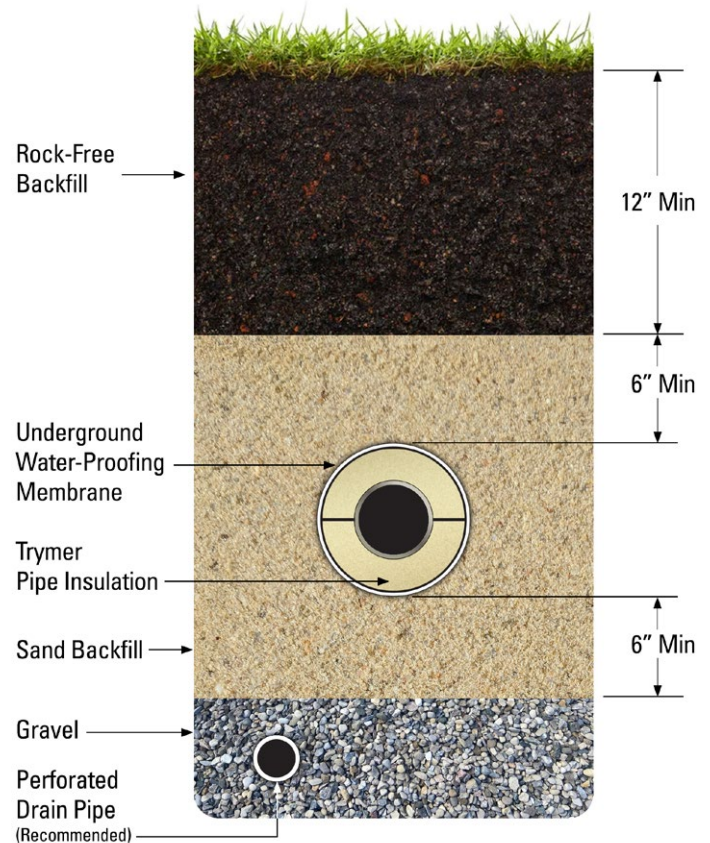

Figure 1 - Underground Trench Insulation Detail
- 3.4.3.1 Underground jacketing shall be Saranex 560 CX Film supplied by Johns Manville. Figure 1 shows the details of trench design. Metal protective jacketing shall not be used underground.
- 4.2.4 Refer to Figure 1 in section 3.4.3 for recommended trench detail in underground applications.